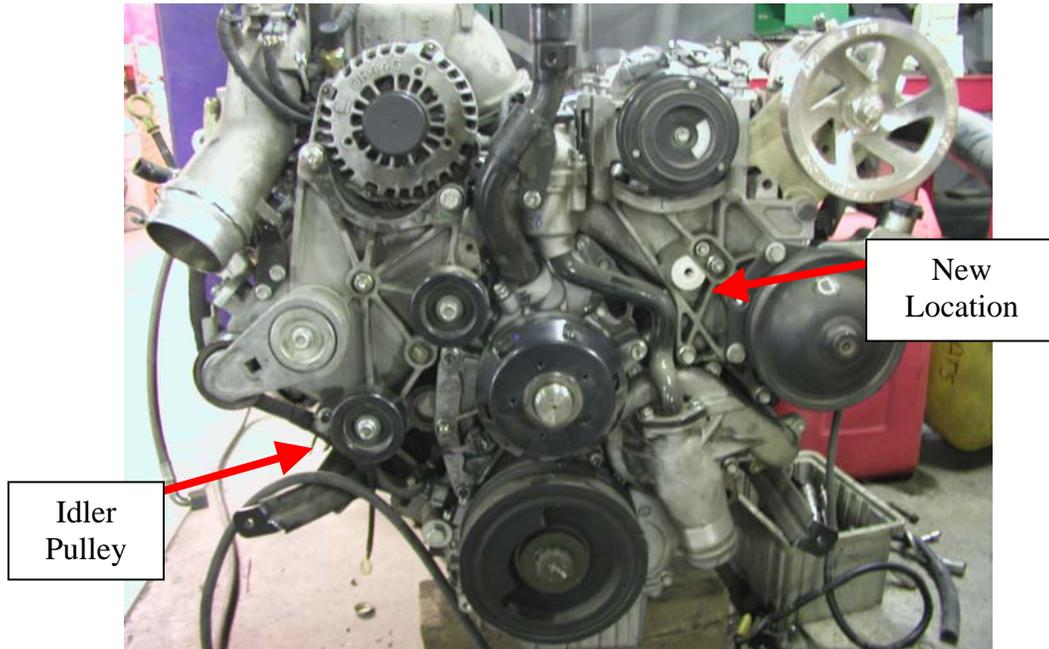

**Figure 1: LB7 Twin CP3 Kit**
Thank you for purchasing the ATS Twin CP3 Kit. The picture below shows all the components included in the kit. Please note that only one rail fitting will be included. Two rail fittings (8a. and 8b.) are shown in the picture. The 2001-2002 LB7 fuel rail requires a different fitting than the 2003-2004 LB7 fuel rail. Please check before beginning the installation to make sure all components are in the supplied LB7 Twin CP3 kit. Two ½" barbed to JIC-6 fittings (#14 in **Figure 1**) are provided in the kit for installation variations. The backside large idler pulley is not pictured.
9. Install the supplied fuel rail fitting into the fuel rail. Only **one** of the fittings below will be provided in the ATS LB7 Kit depending on what year was specified when the order was placed (8a and 8b in **Figure 1**).
15. Install the -6 supply fitting and seal (#9 and 10 in **Figure 1**) into the factory CP3 pump.
- Route supplied  $\frac{1}{2}$ " fuel hose from fuel filter housing to the supplied -6 tee using the provided  $\frac{1}{2}$ " barbed to -6 fitting provided in the kit (#14 in **Figure 1**). Attach hose to fuel filter with existing fuel line clamp.
- Remove fuel return banjo bolt from the top of the pressure relief valve (**Figure 15**) and install the return combination JIC-6 banjo bolt with the new seal provided in the kit (#11 and #12 in **Figure 1**).
20. Remove alternator bracket bolt shown in **figure 18** and install the 10mm x 1.5 x 80mm button head bolt (#19 in **Figure 1**) into alternator bracket. Do not over tighten.